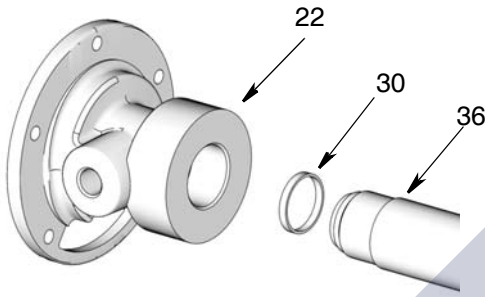

Fig. 32
2. Use a pick to remove the gasket (30) installed between the flange (22) and tube (36) (Fig. 32). Grease the new gasket included in the kit and install it inside the flange.